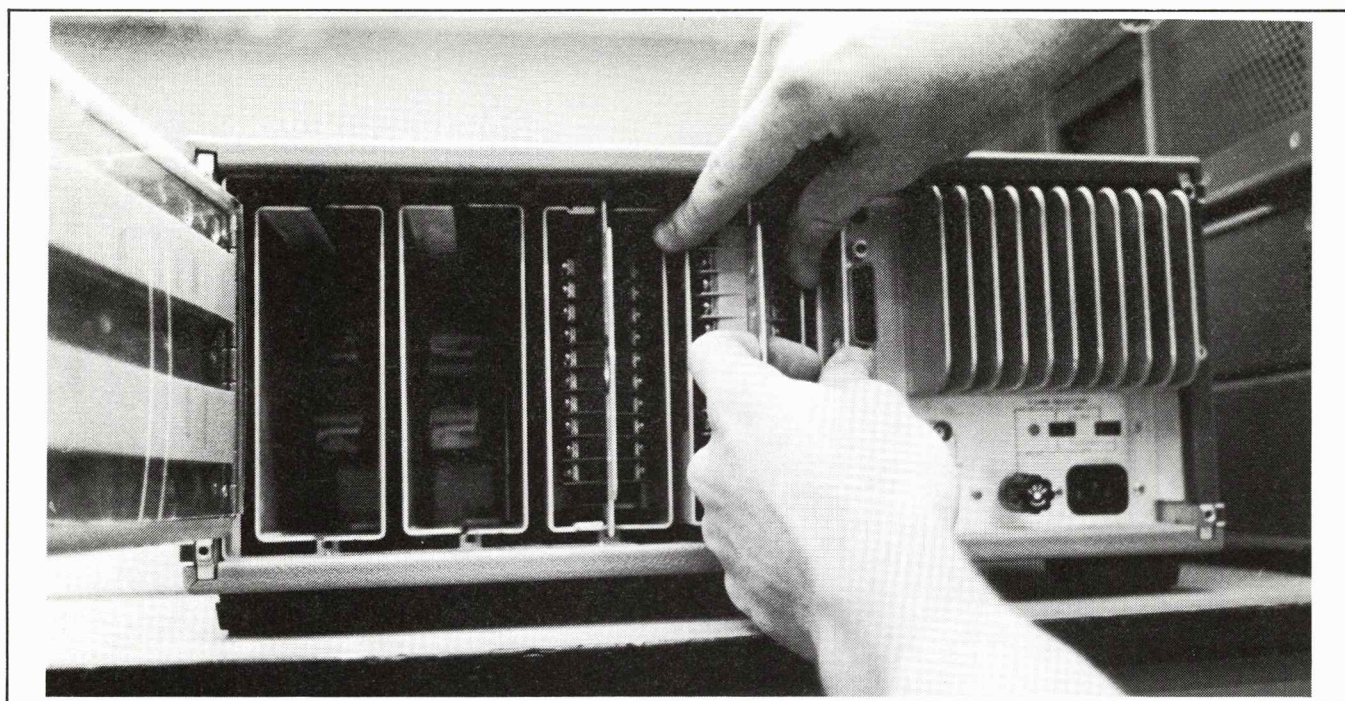

Figure 7-B-10. Removing the Terminal Assembly.
3. Remove the Terminal Assembly (A14 or A24) board plugged into the relay board that contains the malfunctioning relay (see Figure 7-B-10).